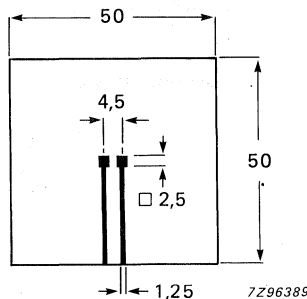

Fig. 2 Mounted on a printed-circuit board.
2. Thermal resistance from junction to ambient; device mounted on a 1,5 mm thick epoxy-glass printed circuit board; Cu-thickness $\geq 40\text{ }\mu\text{m}$ (see Fig. 2)